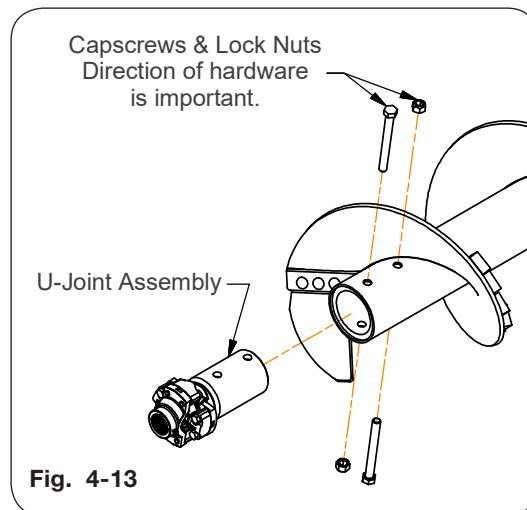

Fig. 4-13
2. Attach the u-joint assembly to the lower auger flighting by placing capscrews into the auger from opposite directions as shown in Fig. 4-13.